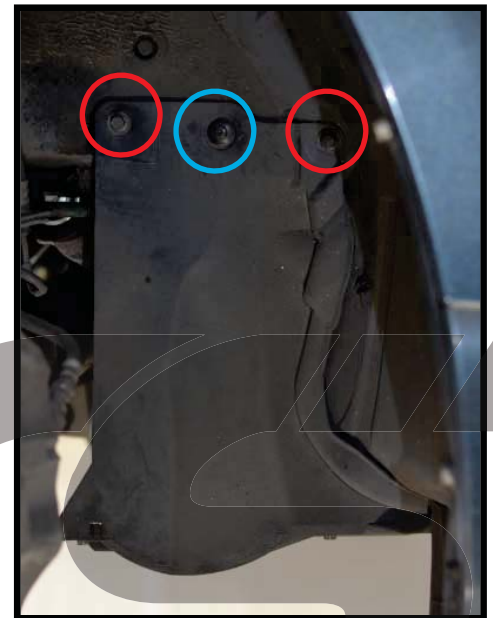

Figure 2b
- c) Remove the two 10mm bolts holding the inner fender engine access cover shown with the red circles in Fig 2b, then remove the plastic push screw with a #2 Phillips screwdriver shown with the blue circle.